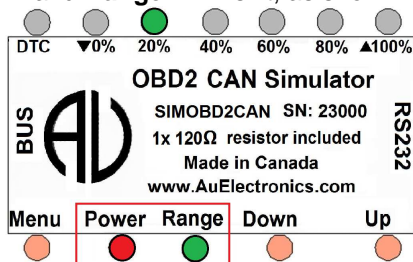

Figure 3-2
- When power on, both **Power** LED and **Range** LED is lit, as shown in Figure 3-2.